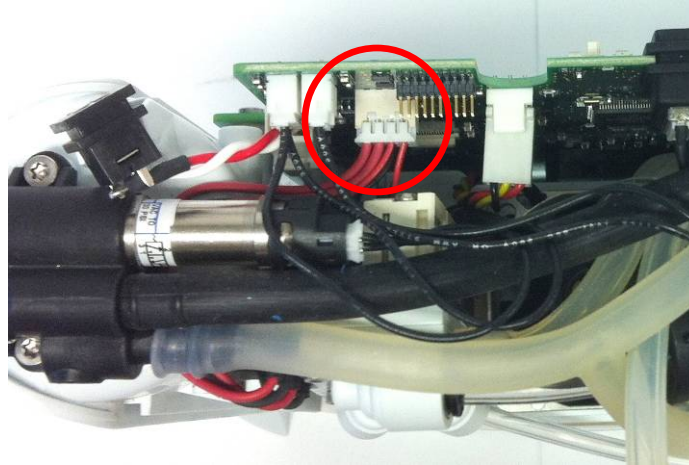

Figure 11: Product manifold motherboard cable
4. Carefully disconnect the product manifold cable from the motherboard using pliers to shimmy the white connector off of the pins and away from the motherboard (Figure 11).